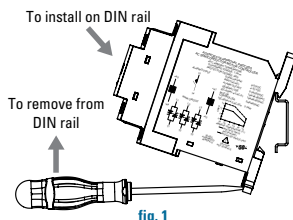

fig. 1
- Install the contactor on the DIN rail (as shown in fig.1).